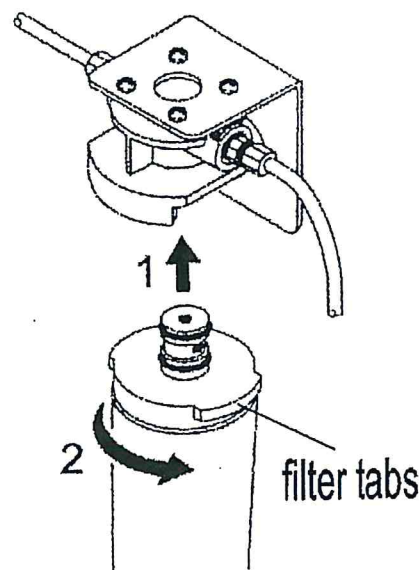

Fig 4.
4. Write the date of installation onto the label of the new filter cartridge (C).
5. Align the tabs on the filter (C) with the gaps in the base of the filter head (B), Fig.4.
6. Whilst holding the filter head (B) push the filter (C) upwards firmly into the head (B). Turn the filter cartridge (C) 90° to lock it in place. Fig.4.